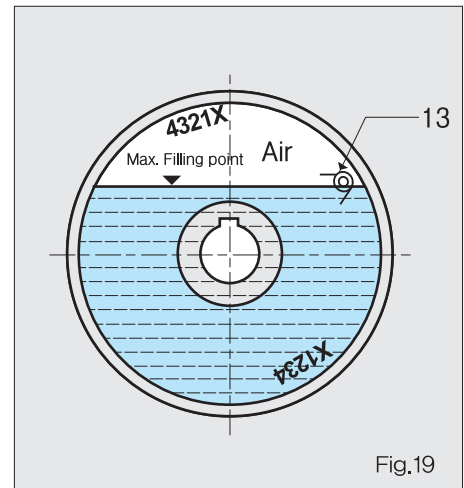

Fig.19
- ① Position the fluid coupling axis horizontally, turn it until the X mark (respectively 2 or 3 according to the fluid coupling type) casted into the housing gets at the top vertical (maximum oil fill), so that the oil plug is inclined as shown in Fig.19
- ② Fill with oil until it overflows out of the filler hole.